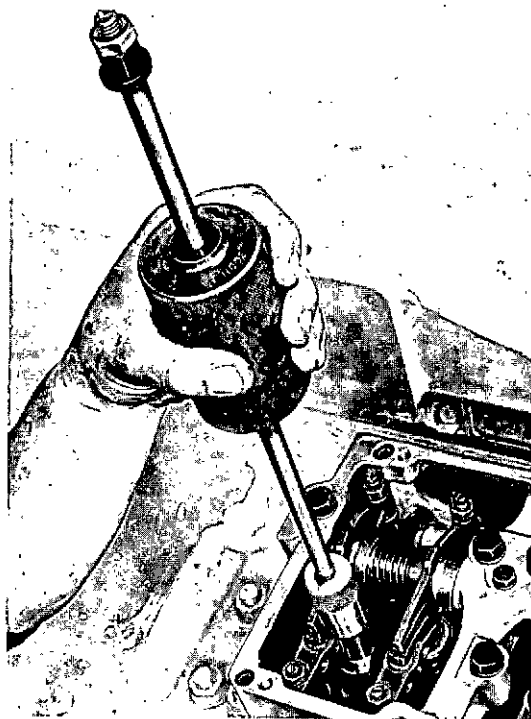

Fig. 7. Using inertia extractor
3. Remove the injector clamp and withdraw the injector. A sticking injector may be freed using the inertia extractor, Rolls-Royce Part No. VT. 11692. Care must be taken to avoid slackening the copper injector sleeve in its housing when using the extractor (fig. 7).